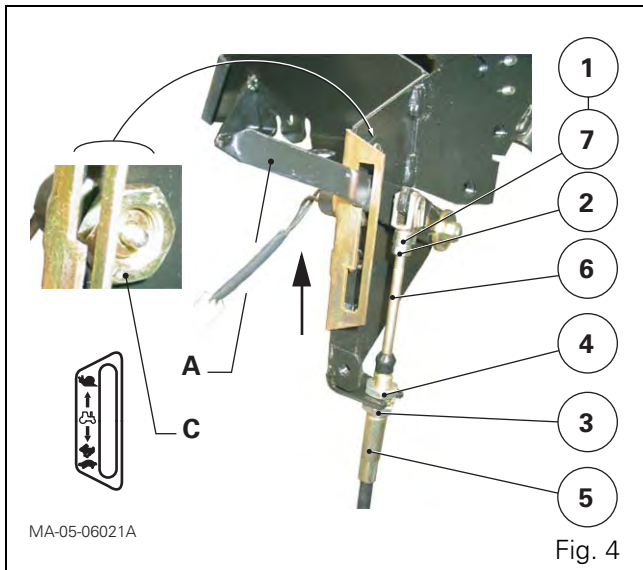

Fig. 4
27. Place control lever A in the Snail position (Fig. 4).
28. Screw the clevis (1) level with the end of the threaded part of the cable (6) (Fig. 4).
29. Fit the clevis (1) onto lever A with the clip (7). Tighten the nut (2) (Fig. 4).
30. Screw the nut (3) on the sheath end (5).
31. Fit the sheath end and the Grower washer on the support. Tighten the nut (4).